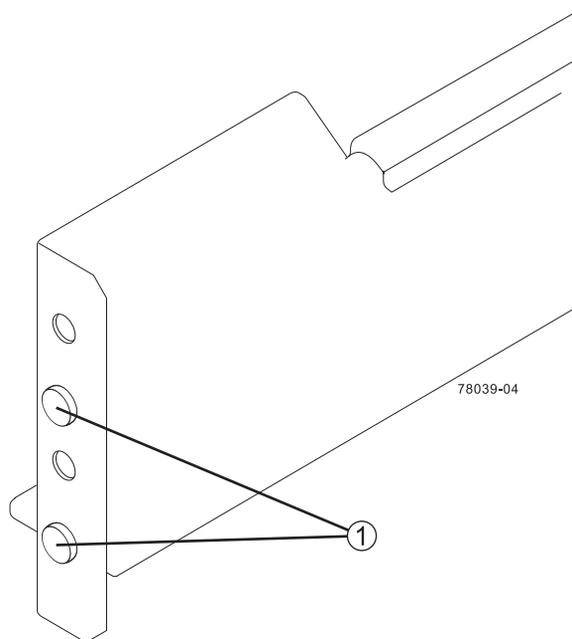

Figure 1-23 Support Rail Alignment Spacers Example
3. Make sure that the alignment spacers on the front flange fit into the mounting holes in the rack, see Figure 1-23 on page 29.